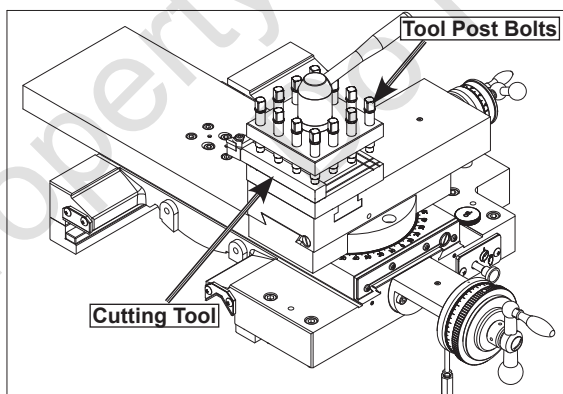

Figure 33. 4-way tool post.
3. Firmly secure the cutting tool with at least two tool post bolts, as shown in Figure 33.